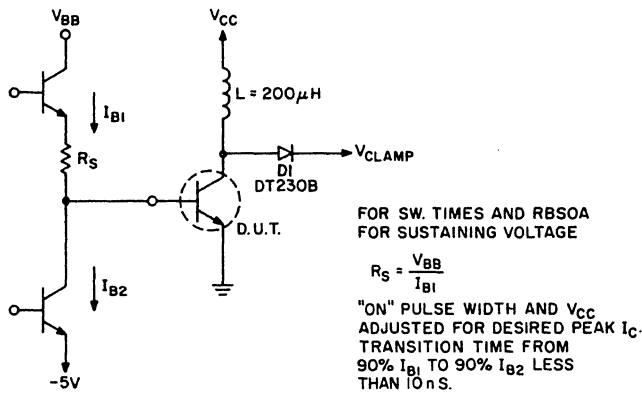

FIGURE 15. INDUCTIVE SWITCHING AND  $V_{CEX}$
Inductive Load, Clamped (See Figure 15 for Test Circuit)
(1) Pulse Duration = 300  $\mu\text{sec}$ , Duty Factor  $\leq 2\%$ .
(2) See Figure 15 for Test Circuit.